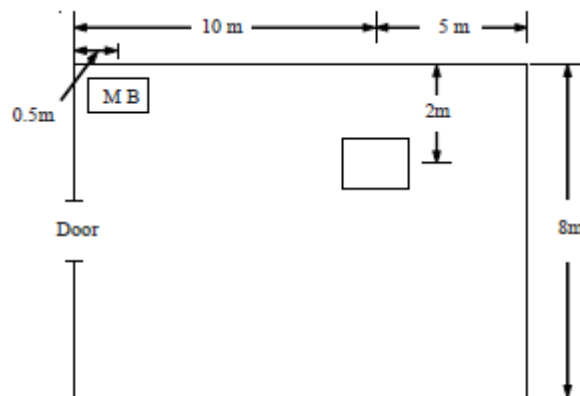

Fig 2.23 : Layout of Floor Mill
6. (a) A 10 H.P (metric), 415 V, 3-phase, 50 Hz squirrel-cage Induction motor is to be Installed in a floor mill, the plan of which is shown in Fig. 2.23. Show the layout of wiring diagram and estimate the quantity of materials required and their approximate cost. Assume any missing data. **(CO2)**